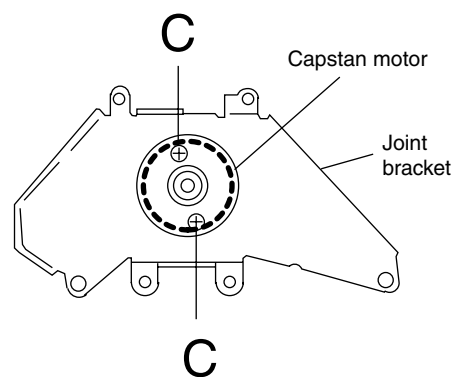

Fig.8
■ Removing the capstan motor (See Fig. 8)